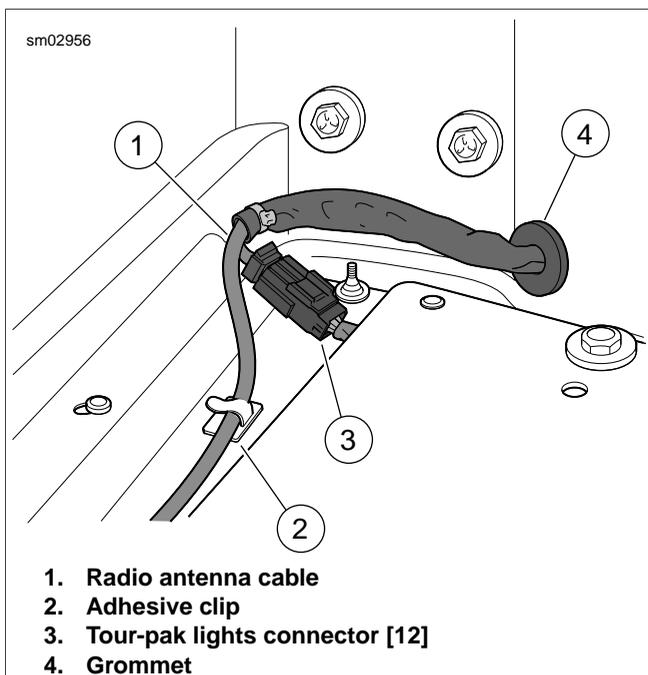

Figure 8-118. Disconnect Tour-Pak Lights Connector
12. Disconnect Tour-Pak lights connector [12], 3-place Multilock. See Figure 8-118.
8. Connect Tour-Pak lights connector [12], 3-place Multilock. See Figure 8-118.